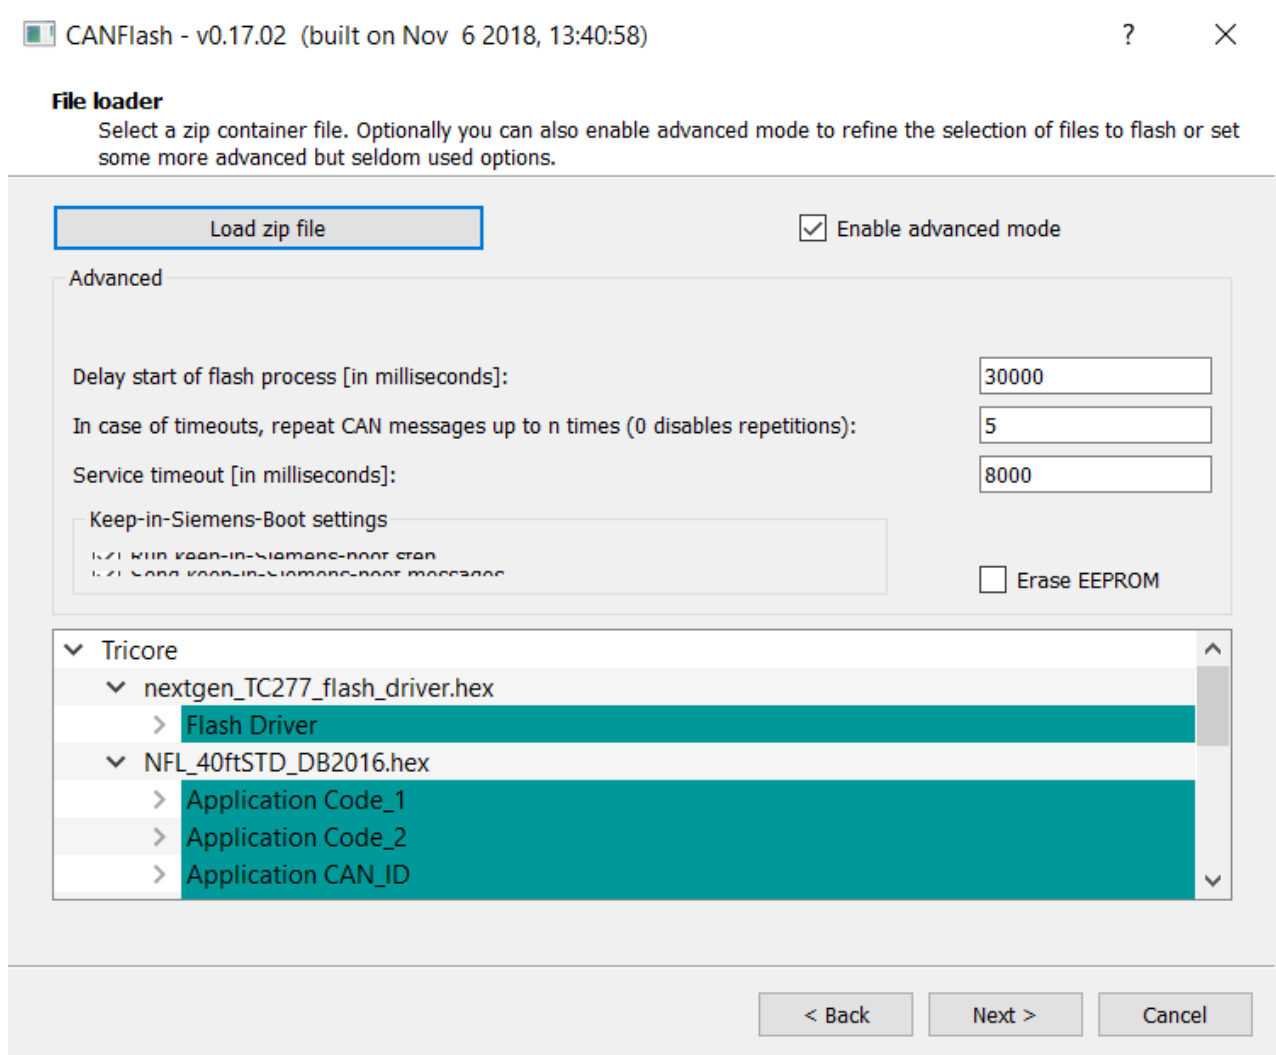

Figure 19: Advanced settings for CANFlash
55. Click the **Enable advanced mode** button. Change the **Delay start of flash process** box to 30000. Change the **repeat CAN messages** box to 5 (see figure 19). Click **Next** when complete.